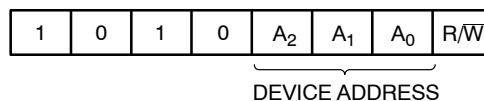

Figure 3. Slave Address Bits
The Master addresses a Slave by creating a START condition and then broadcasting an 8-bit Slave address. For the NV24C64MUW, the first four bits of the Slave address are set to 1010 (Ah); the next three bits, A₂, A₁ and A₀, must match the logic state of the similarly named input pins. The R/W bit tells the Slave whether the Master intends to read (1) or write (0) data (Figure 3). The device in WLCSP with 4 bumps responds only to address combination A2A1A0 = 000.